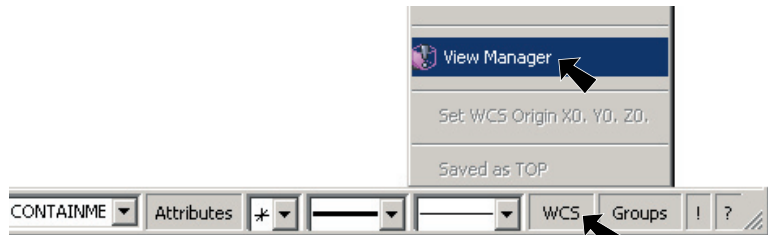

Fig. 54
Step 2. Click **WCS** in the Status Bar at the bottom of the screen and **View Manager** from the menu, **Fig. 54**.